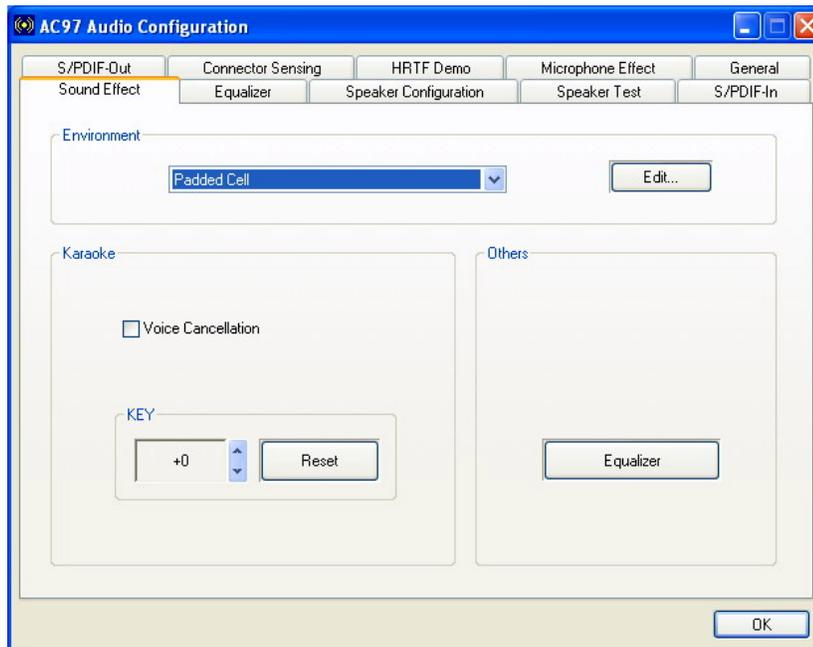

Figure C-4: Sound Effects Manager (ALC655)
Step 3: The sound effect manager appears. (See **Figure C-4**)
The Sound Effect Manager shown in **Figure C-4** is for the Realtek ALC655 audio CODEC. Different CODECs may have different sound manager appearances.
The **Sound Effects Manager** enables configuration of the items listed below. To configure these items click the corresponding menu tab in the **Sound Effects Manager** in **Figure C-4**.